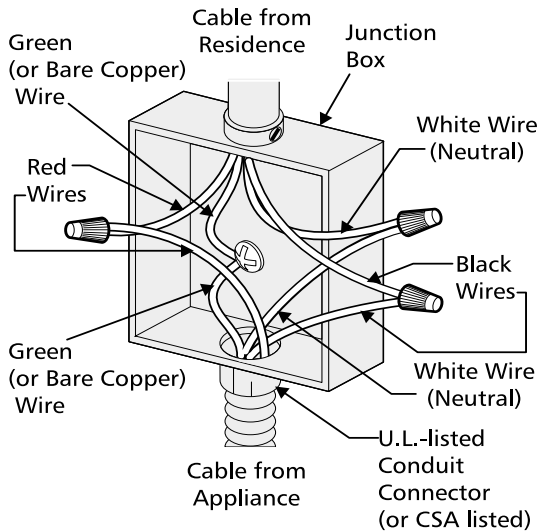

Figure 3 – 4-Wire Electrical System (Example: Junction Box)
When connecting to a 4-wire electrical system, when installing in a mobile home, or when local codes DO NOT permit connecting the cabinet-grounding conductor to the neutral (white) junction box wire (see Figure 3)
3. In the circuit breaker, fuse box or junction box: connect appliance and residence cable wires as shown in figure 3.